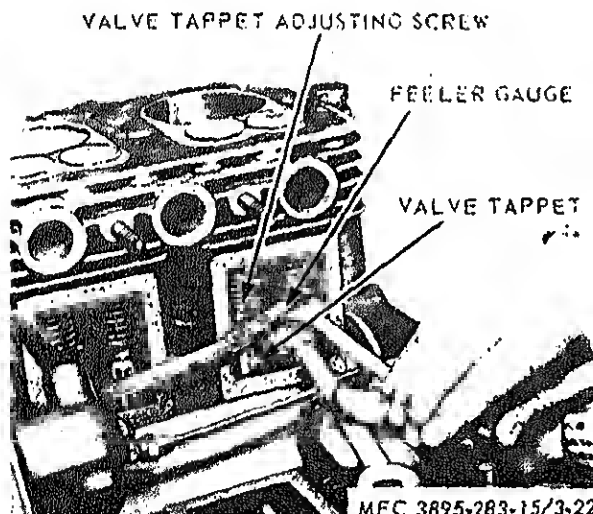

Figure 3-22. Valve Tappet Adjustment.
c. Adjust the valve tappets as shown in figure 3-22.